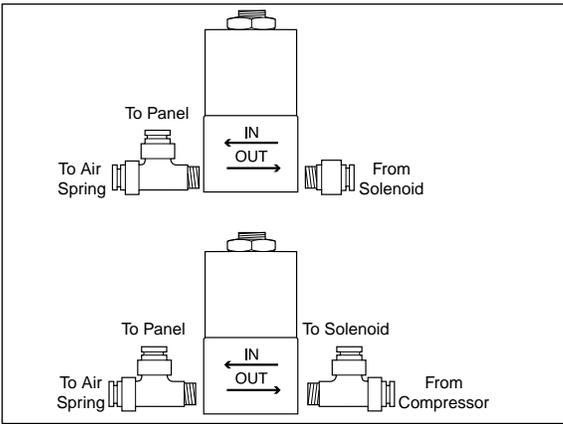

Figure 2
1. Install the fittings to the solenoids as shown in Figure 2. One port requires the use of 1/8" N.P.T. straight fitting, while all the other ports take male run tees (Figure 2).
5. Route the left hand air spring air line along the frame and secure with nylon tie straps. Push the air line into one leg of the tee on the left solenoid (Figure 2 & 8).